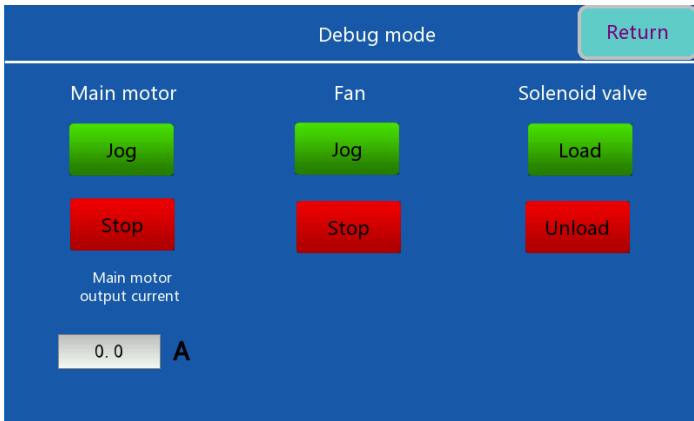

Figure 4-9 Debug mode interface
Step 4 On the system configuration interface, click **Debug Mode**, and the interface is displayed, as shown in Figure 4-9.